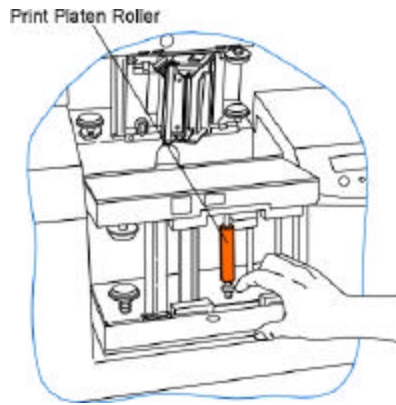

Figure 3-20
3. Locate the Print Platen Roller. See Figure 3-20.